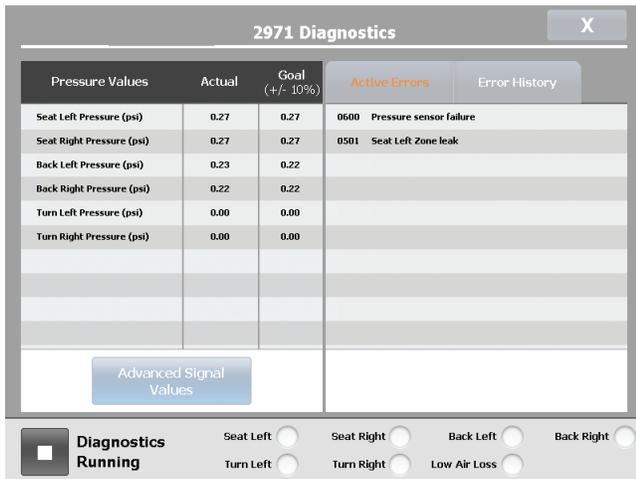

Figure 45 – Diagnostic running main screen sample
- To cancel diagnostics, tap **stop** on the lower portion of the Diagnostics screen (Figure 45).